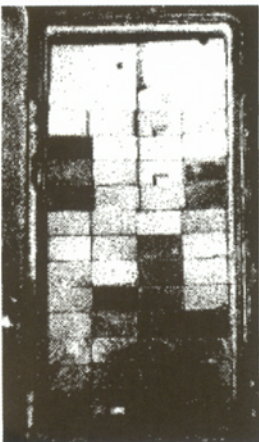

Figure 38 Brick up access openings, if required, and close all observation doors and access openings when preparing to light a furnace.
2. Brick up access openings if required, and close all observation doors and access openings (Figure 38). Header boxes and plates should be closed tightly. Air should enter the furnace through burner registers only.